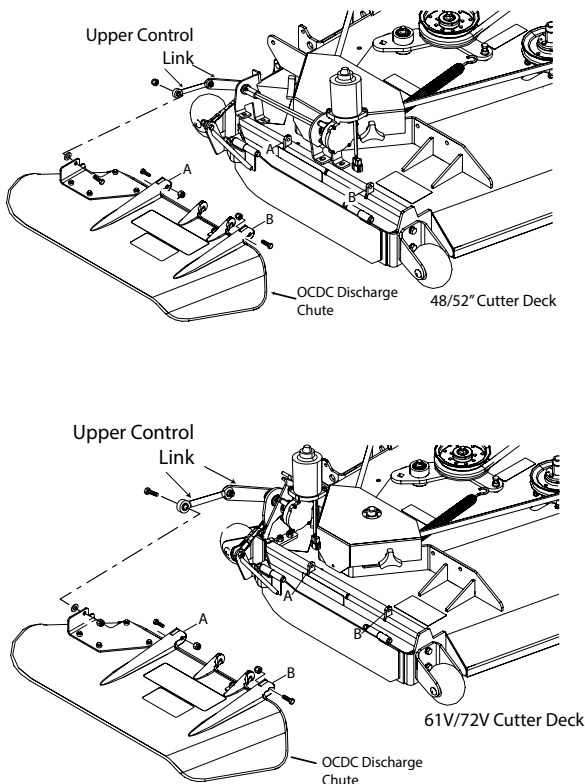

Figure 3-36. Discharge Chute Installation
2. Install the RF control module mounting bracket to the cutting height bracket using the 5/16-18 x 1 1/4" bolts removed in step 1. See Figure 3-36.
- Secure the RF control module and guard to the mounting bracket using two 1/4 - 20 x 1" bolts, two 1/4" flat washers, and two 1/4" - 20 elastic stop nuts. See Figure 3-36.